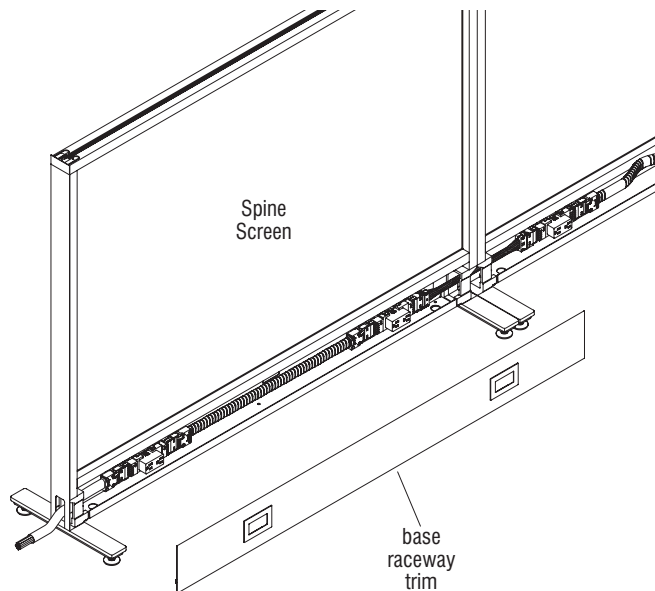

Figure 43
1. Install the base raceway trim by aligning the trim openings with the installed receptacle and engaging the base trim lip with the bottom wireway channel (Figure 43 & Detail CCC).